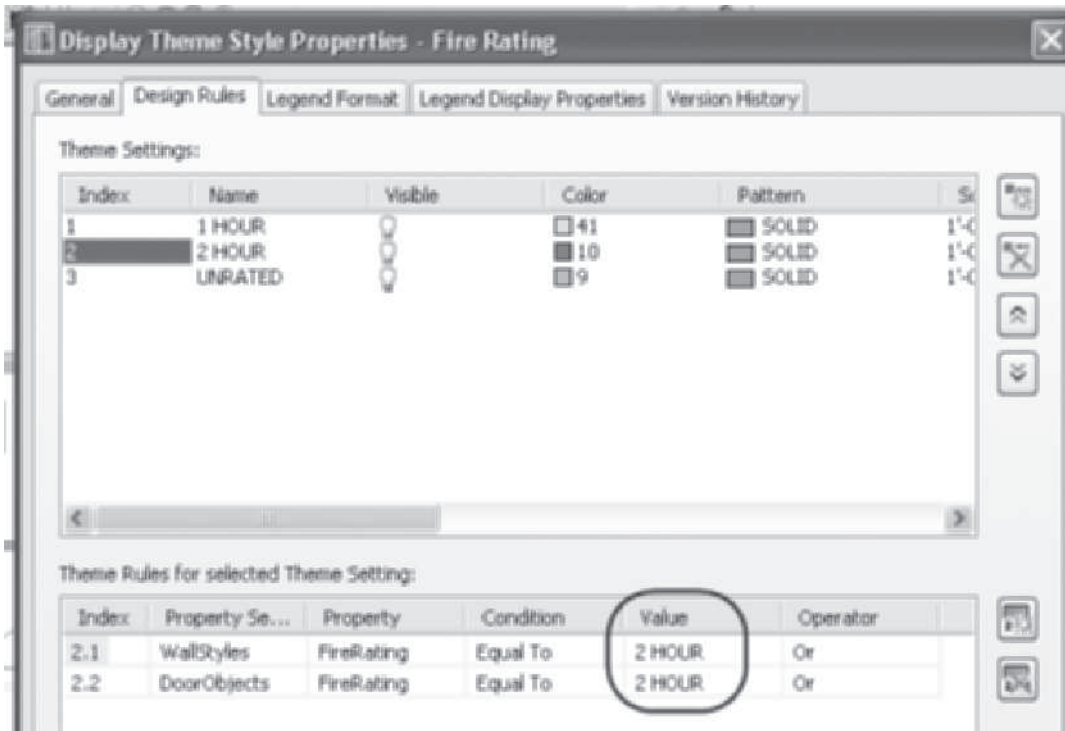

FIGURE 11.105 Design Rules tab of the Display Theme Style Properties dialog box
13. Choose the Design Rules tab as shown in Figure 11.105. Select Index 2 in the top window. The theme rule for the Theme Setting is displayed in the lower window. The theme setting for 2 HOUR will display if the wall style FireRating property is equal to 2 HOUR or the DoorObjects FireRating property is equal to 2 HOUR as shown in the lower window of Figure 11.105. Click OK to dismiss the Display Theme Style Properties dialog box.